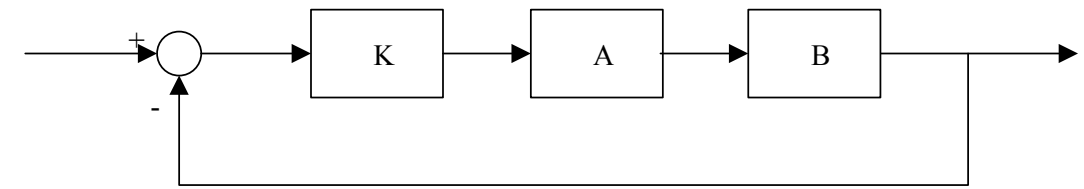

Figure 3b
- The elements A and B are now placed in a feedback control system, as shown in Figure 3b, in which the proportional gain constant K is adjustable. Derive an expression for the closed-loop transfer function and determine the range of values of K for which the system will be stable. (10%)